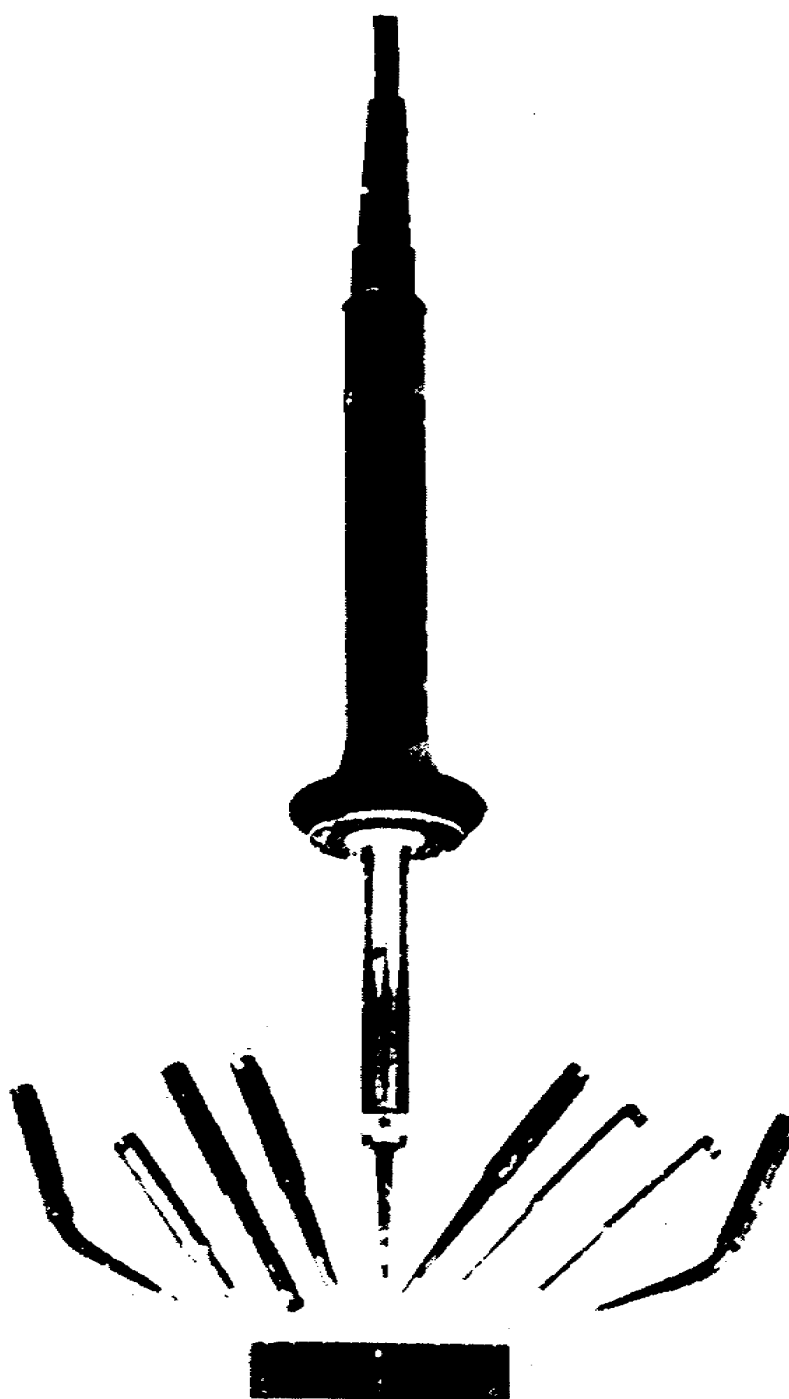

Figure 10. Soldering kit: soldering iron an assorted tips.
- (1) Soldering outfit (fig. 10). This 55-watt soldering iron is temperature controlled. Nine assorted tips are included with it. Everything comes in a metal box small enough to fit in the tool chest along with the rest of the tools that make up a TK-105/G. Note particularly the various shapes and sizes of the tips you can use with this lightweight soldering iron. The tip seen chucked in the iron gives 600° Fahrenheit temperature. A marking on each tip tells the heat that the tip is designed to give. Shown here unchucked are these tips: two curved fine-point tips, one for 500° F and one for 600° F; a 750° F stub point (second from left); a 750° F straight, flat point (third from left); a 750° F sharp point; a 500° F fine point; a 500° F eight-angle flat point (third from right); and a 500° F "hoe" blade (second from right).